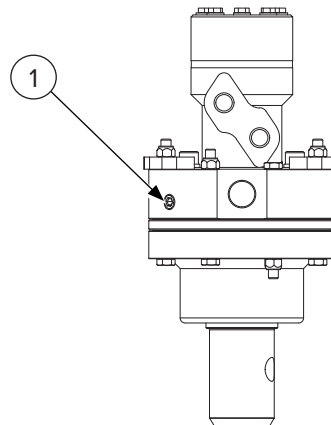

Figure 8
2. Remove the two (2) pivot pins. Clean the pins and housings. Apply a multi-purpose grease.
3. Remove the 1/4” BSP drain plug using an Allen key. See Figure 8, Item 1.
2. Remove the four (4) pivot pins. Clean the pins and housings. Apply a multi-purpose grease.
3. Remove the 1/4" BSP drain plug using an Allen key. See “Figure 8” on page 21.